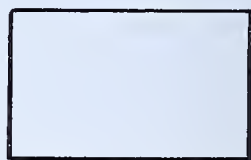

FIG. 249 — *A Rectangle*
**RECTANGLE** — Fig. 249. A four-sided figure whose sides meet at right angles.